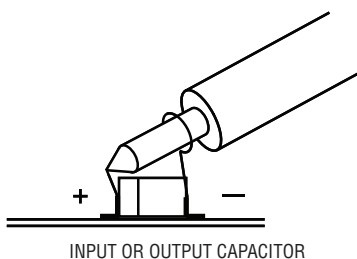
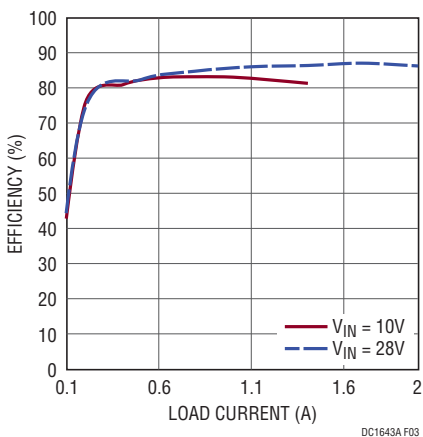

Figure 2. Proper Scope Probe Placement for Measuring Input or Output Ripple
Figure 3. Typical Efficiency Curves
**Note:** When measuring the input or output voltage ripples, care must be taken to avoid a long ground lead on the oscilloscope probe. Measure the input or output voltage ripple by touching the probe tip directly across the  $V_{IN}$  and GND, or  $V_{OUT+}$  and  $V_{OUT-}$  terminals. See Figure 2 for proper scope probe technique. Typical efficiency and regulation curves are plotted in Figures 3 and 4, respectively.